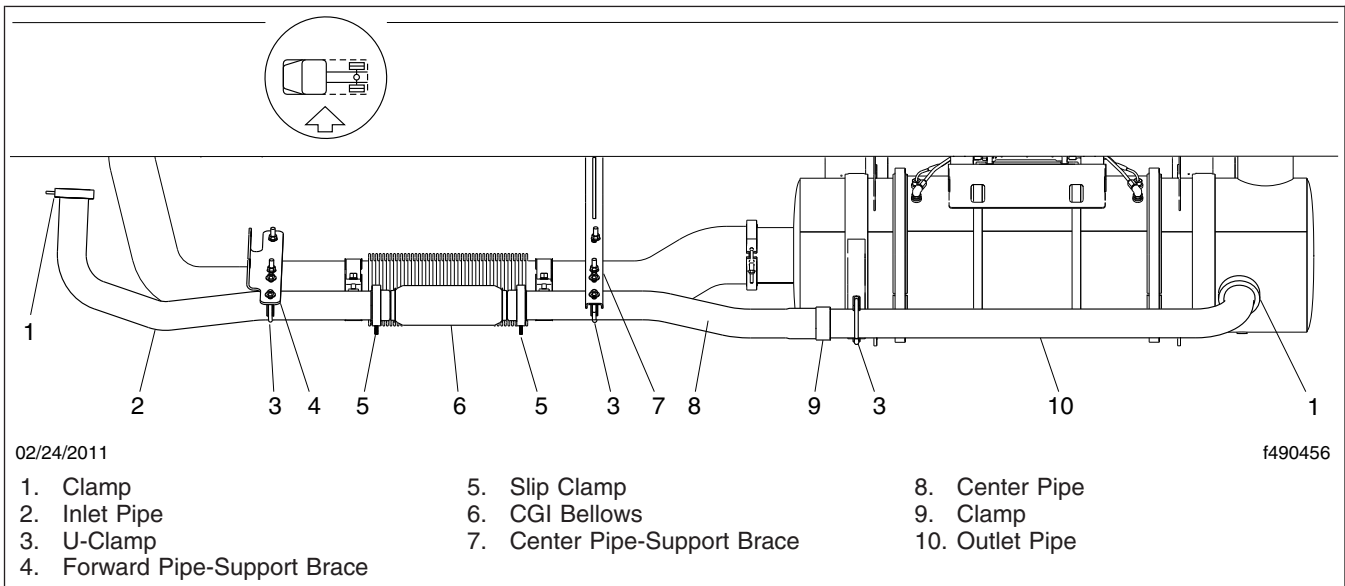

Fig. 5, CAT EPA07 Exhaust Installation with CGI Bellows
3. On vehicles with CAT engines, inspect the CGI bellows and piping for evidence of damage or leakage. See Fig. 5. If the bellows is damaged or leaking, replace it. See 49-02 for the replacement procedure.
See Fig. 5.